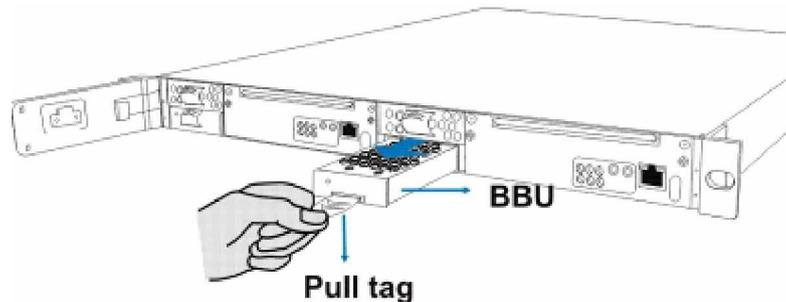

Figure 5-8: Removing the BBU
- Step 2. Remove the faulty BBU from the chassis.** Gently pull out the BBU using the plastic tag on the BBU module. (See **Figure 5-8**)